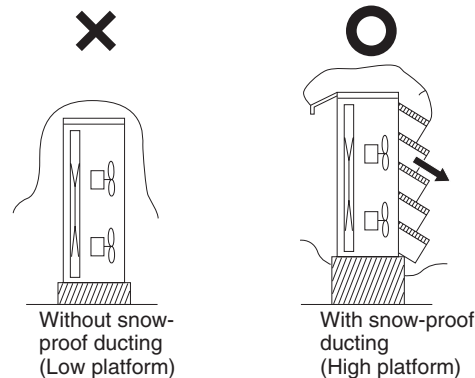

Fig. 2-18
- (1) The platform should be higher than the max. snow depth. (Fig. 2-18)
- (2) The 2 anchoring feet of the outdoor unit should be used for the platform, and the platform should be installed beneath the air intake side of outdoor unit.
- (3) The platform foundation must be firm and the unit must be secured with anchor bolts.
- (4) In case of installation on a roof subject to strong wind, countermeasures must be taken to prevent the unit from being blown over.